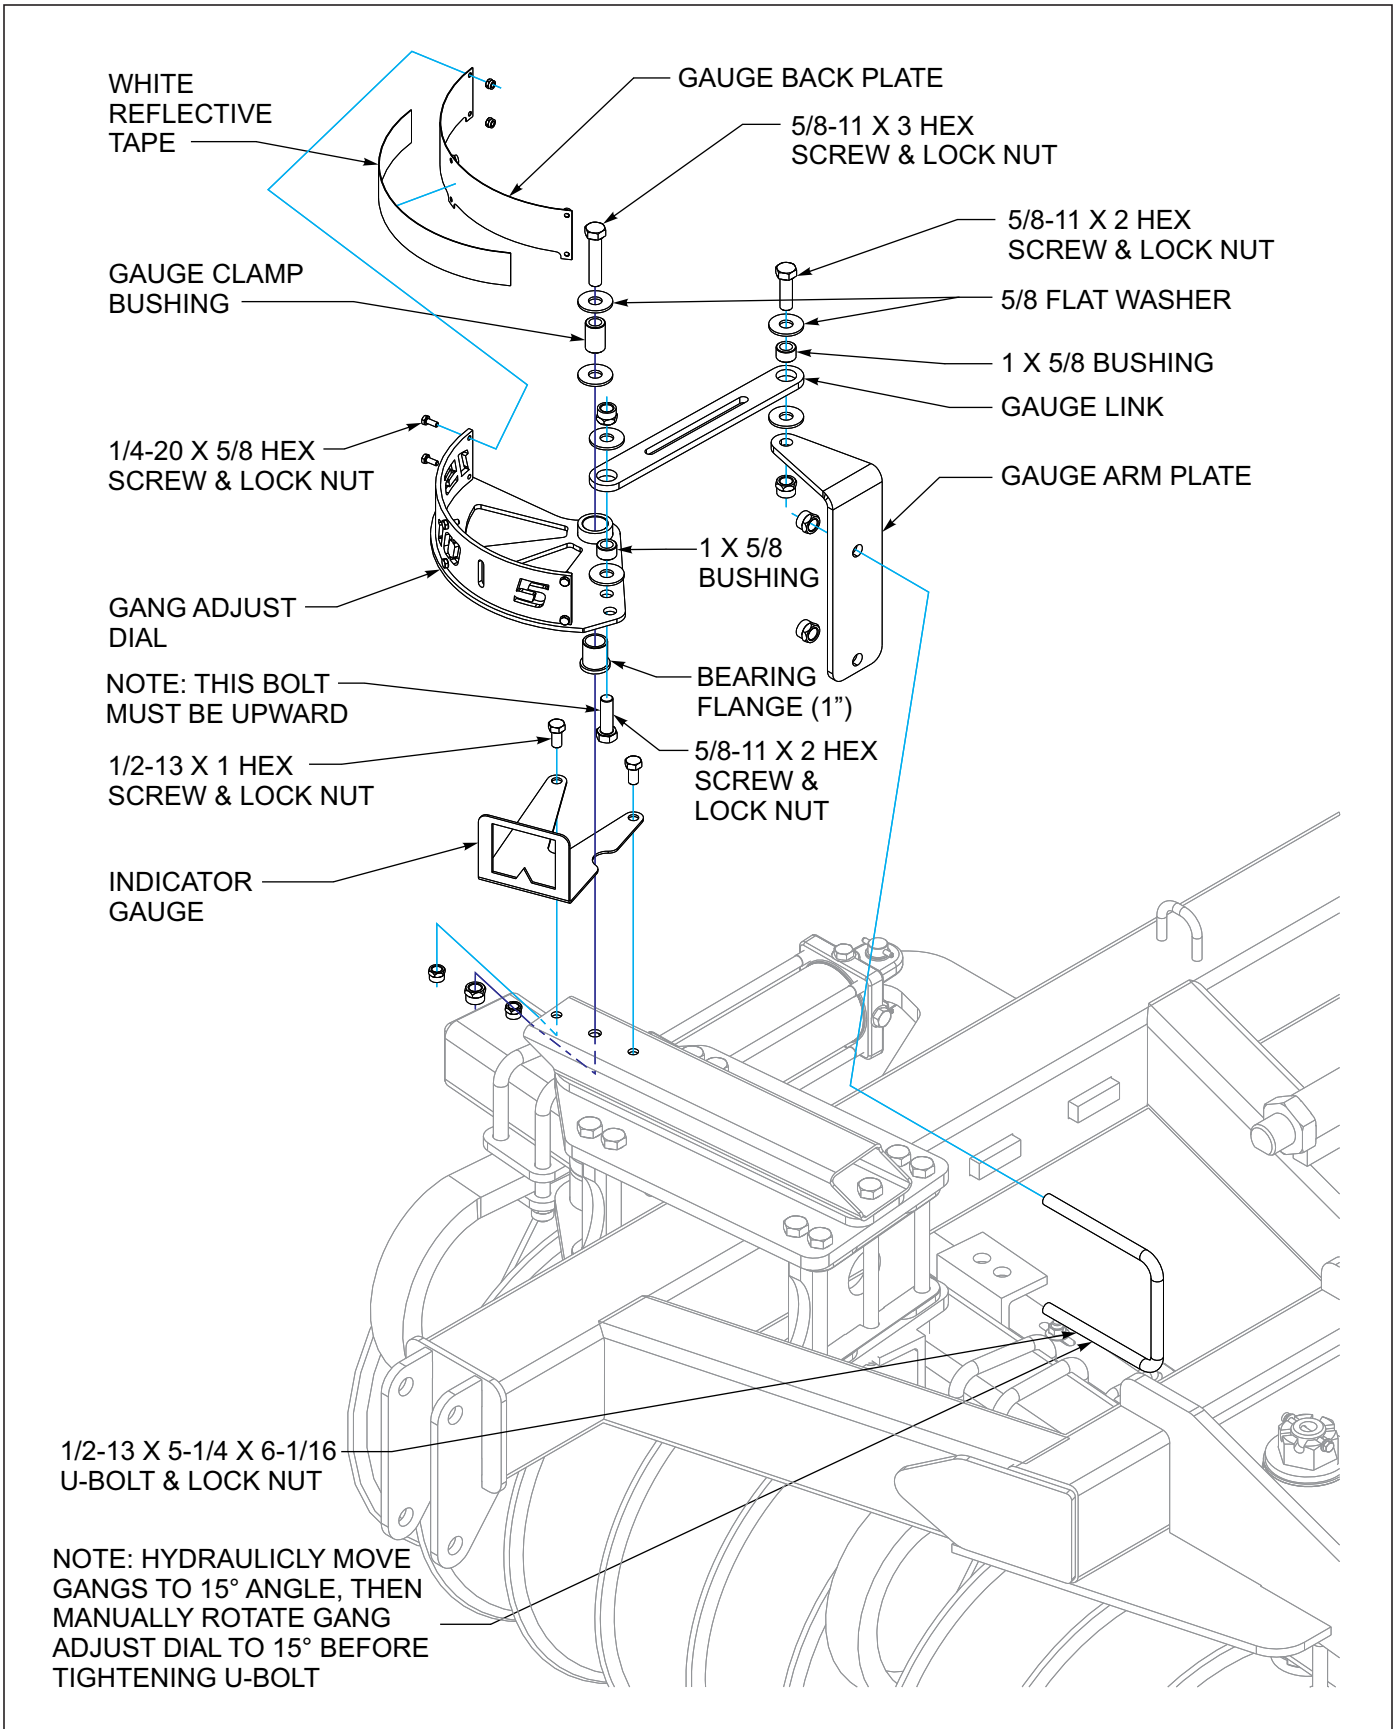
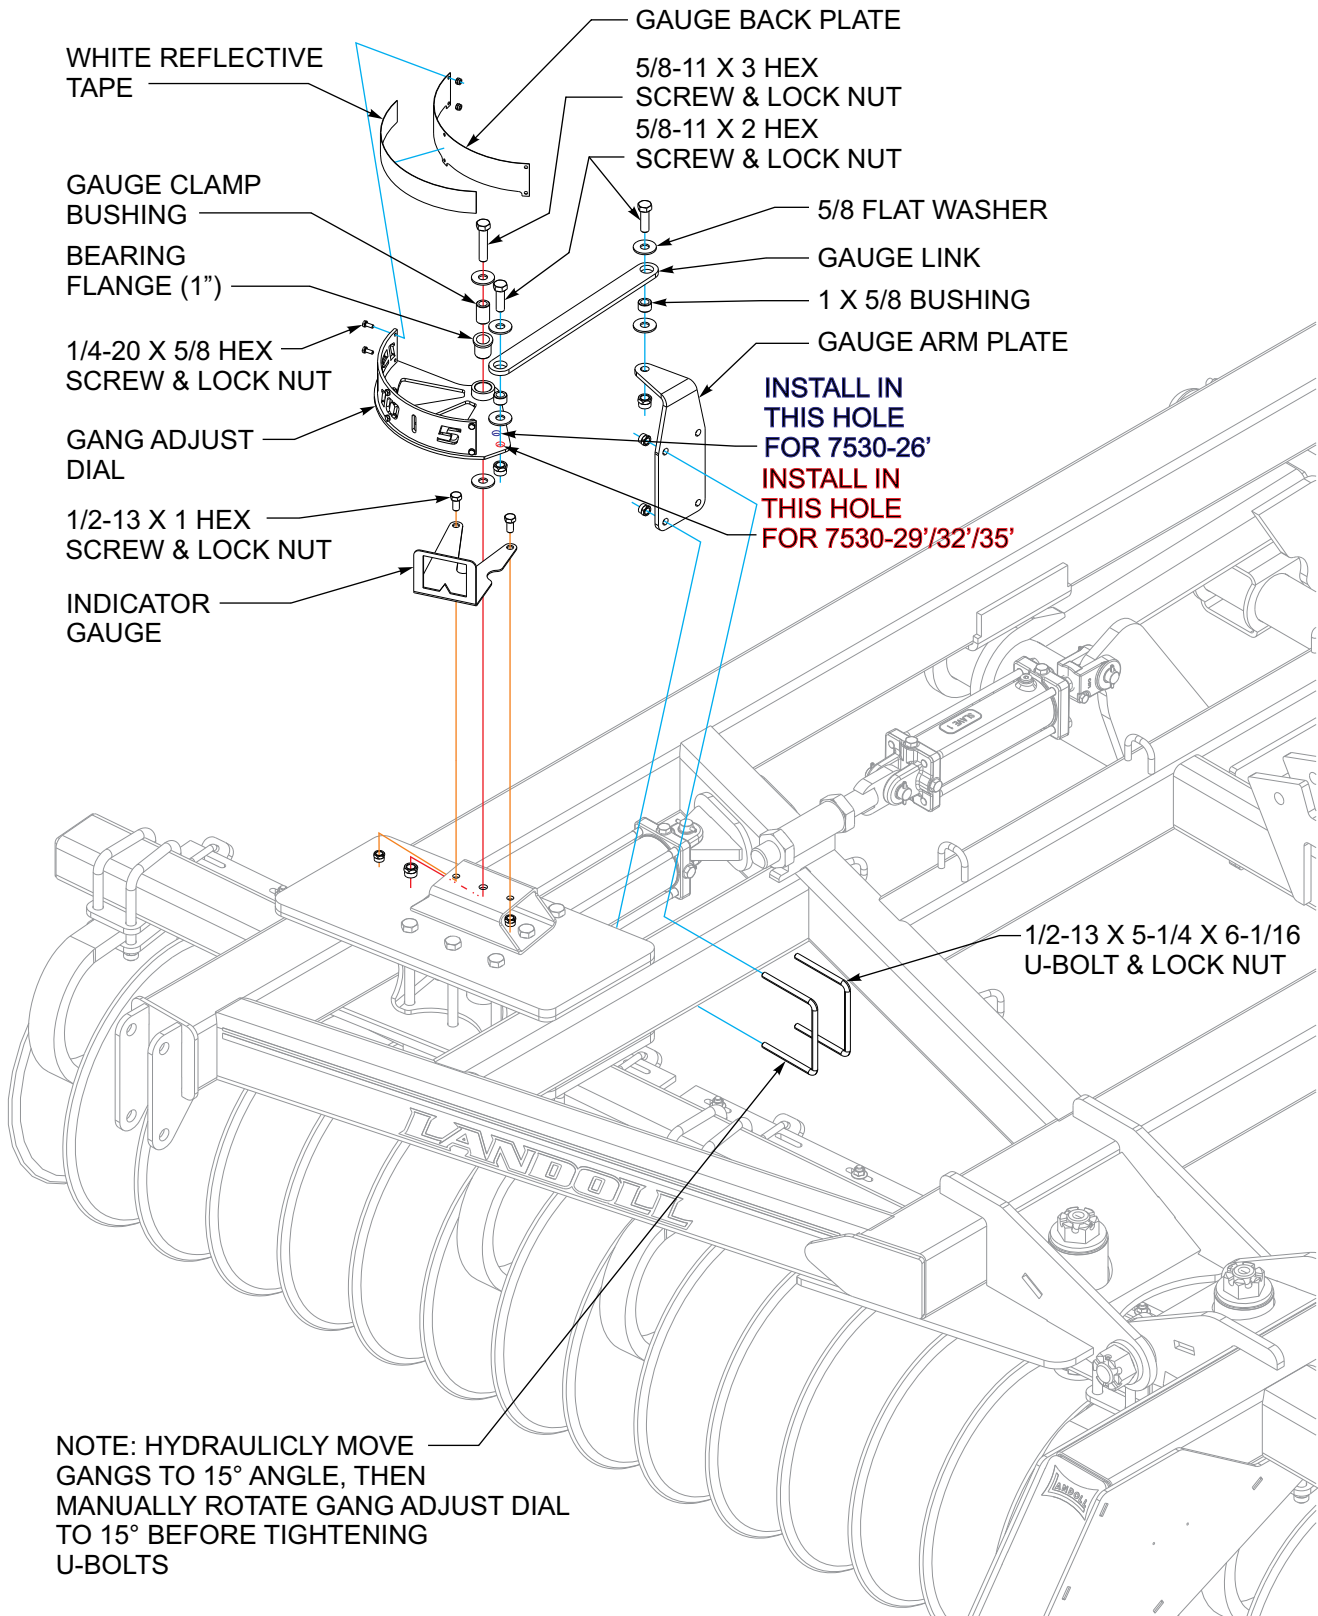

Figure 3-26: Disc Gang Adjust Gauge Installation 7530-23'
Figure 3-27: Disc Gang Adjust Gauge Installation 7530-26'/29'/32'/35'
Refer to Figures 3-26 - 3-37 for gang hydraulic diagrams for 7530-23'/26'/29'/32'/35' models.
6. Install the gang adjust gauge as shown (See Figures 3-26, 7530-23', See Figures 3-27, 7530-26'/29'/32'/35') The gauge link will need to be mounted to the second hole in the gang adjust dial for the 7530-23'/26' VT and the first hole for the 7530-29'/32'/35' VT.
*To calibrate gauge the disc gangs will need to be adjusted to the 15 degree angle with hydraulics. Then manually rotate gang adjust dial to 15 degree setting in indicator gauge. Now the 1/2-13 x 5-1/4 x 6-1/16 u-bolts and lock nuts may be tightened(See Figures 3-26, 7530-23', See Figures 3-27, 7530-26'/29'/32'/35').*